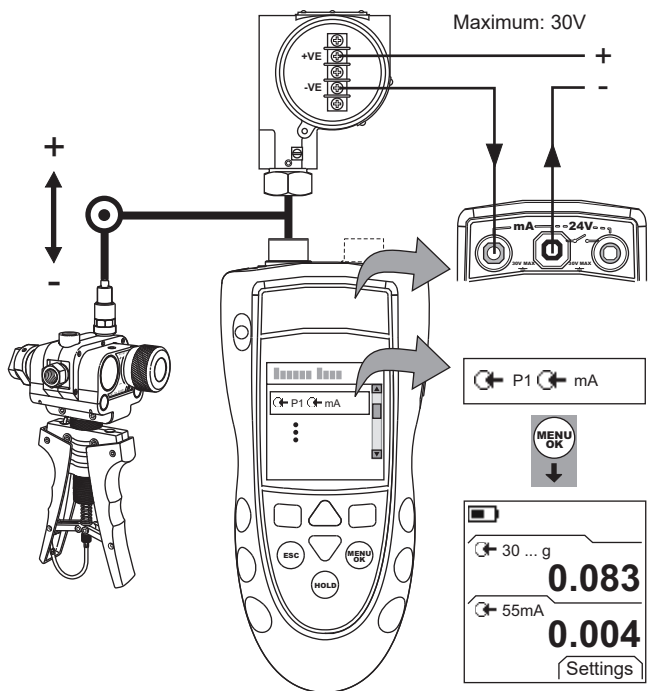
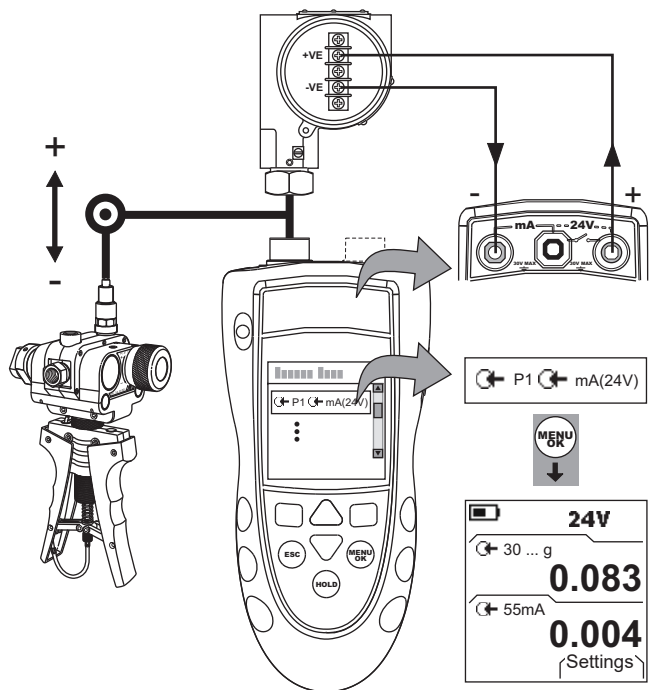

Figure 5: Example Configuration - Transmitter Calibration with External Loop Power
Figure 6: Example Configuration - Transmitter Calibration with Internal Loop Power
- Connect the instrument (Figure 5 or Figure 6) and, if necessary, adjust the *Set Up* (Table 1).